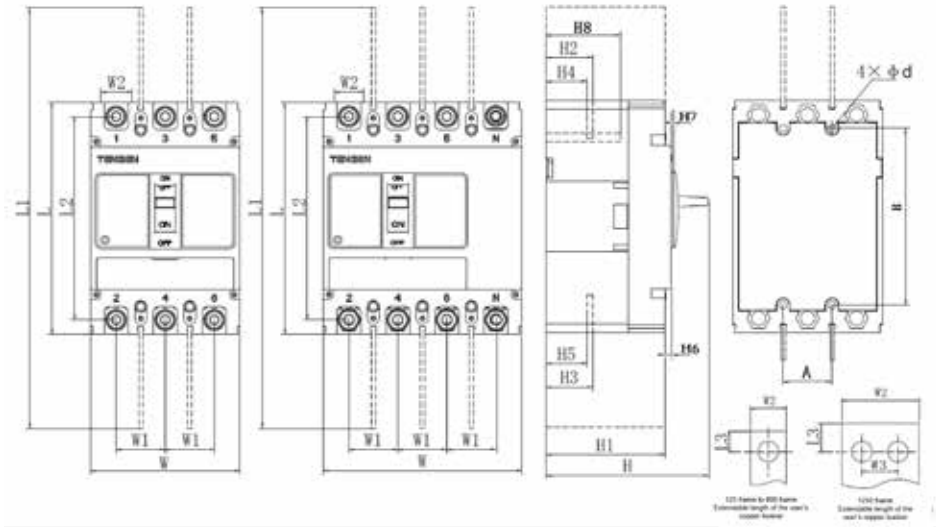

Fig. 1 Outline dimensions and installation dimensions of TGM1E
9.1 The outline dimensions and installation dimensions of the product see Table 30 and Fig. 1